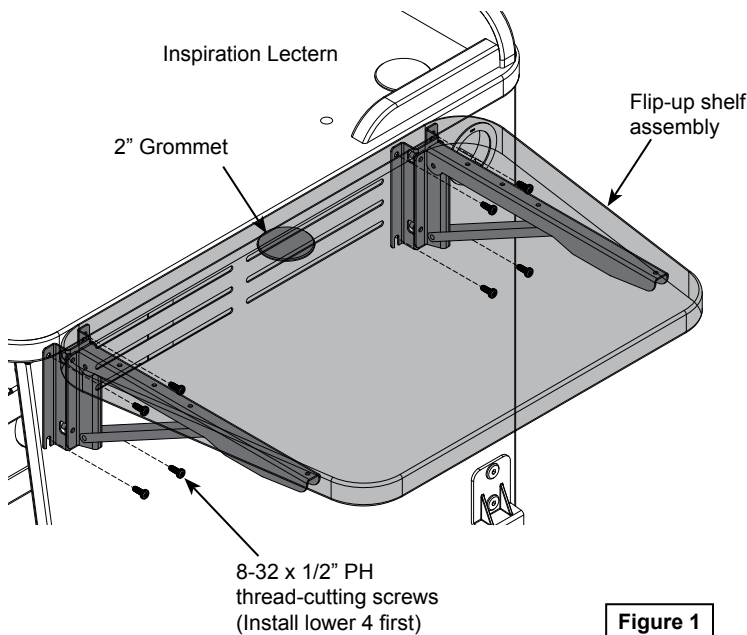

Figure 1
2. Extend each shelf bracket to by depressing the release lever and lifting until it locks into the 90° position. **Figure 1**.
3. Install the (4) lower 8-32 x 1/2" PH thread-cutting screws into the side panel leaving about 1/4" of threads exposed.
4. Set the shelf assembly onto the (4) lower screws using the notched brackets.
5. Secure the shelf assembly by installing the (4) upper 8-32 x 1/2" PH thread-cutting screws.